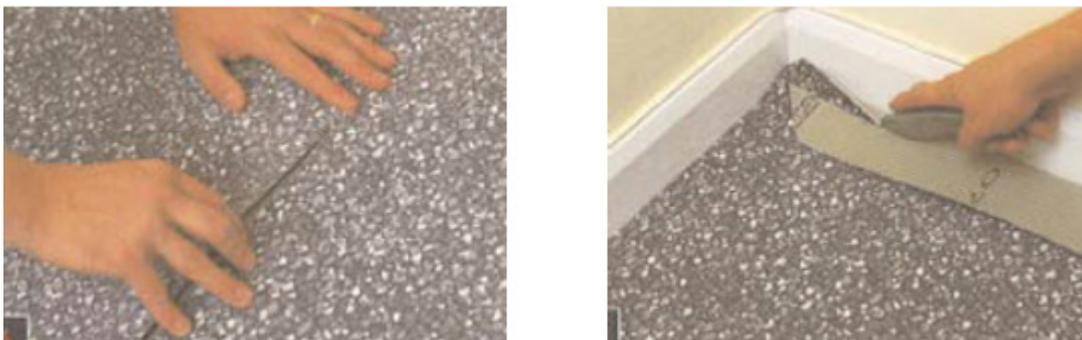

Fig 3.
- Trim off the surplus. Refer to Fig 3.